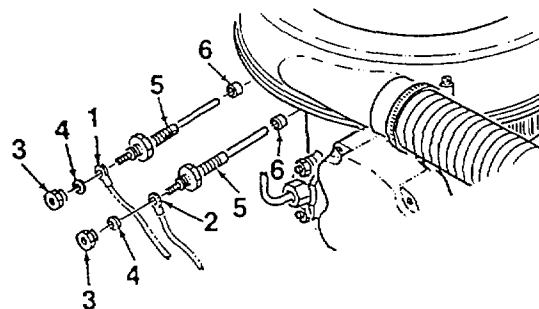

Figure 4-46. Air Heat Glow Plug
1. Disconnect electrical wires (1, 2, Figure 4-46) from glow plugs (5) by removing nuts (3) and washers (4).
2. Unscrew two glow plugs (5) and attached spacers (6) from engine block. Retain spacers.
1. Screw two glow plugs (5, Figure 4-46) and attached spacers (6) into engine block.
2. Connect electrical wires (1, 2) to glow plugs (5) using nuts (3) and washers (4).